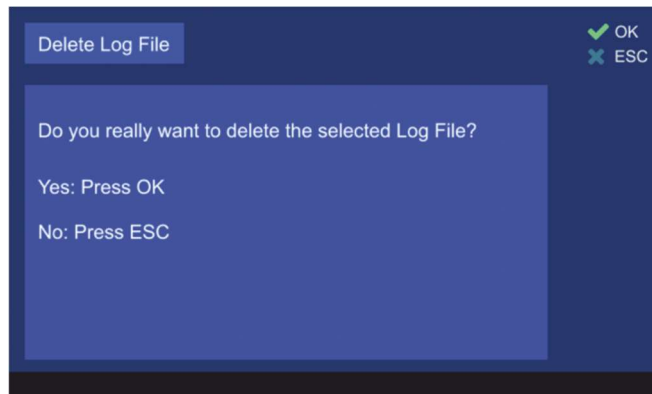

Figure 175. Confirming the deleting of the log file
- Pressing the hotkey “Delete Log” will open the following window (s. Figure 175). Pressing “OK” will delete the currently marked file. Pressing “ESC” will close the dialog without deleting the log file.